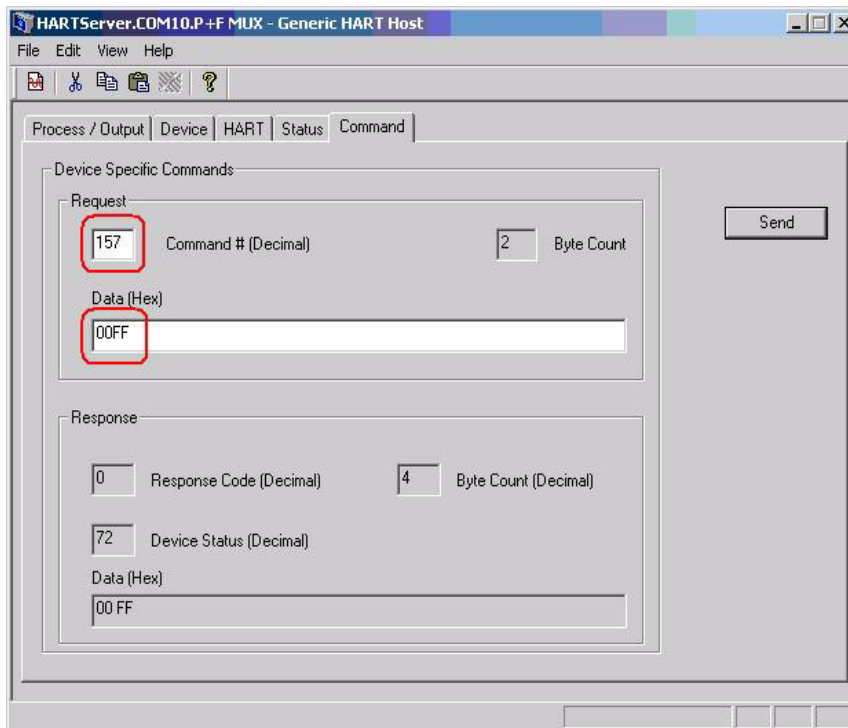

Figure 84. HART Server - Enabling Slaves
4. In the command tab, as shown in Figure 84, issue the *request '157'* with: